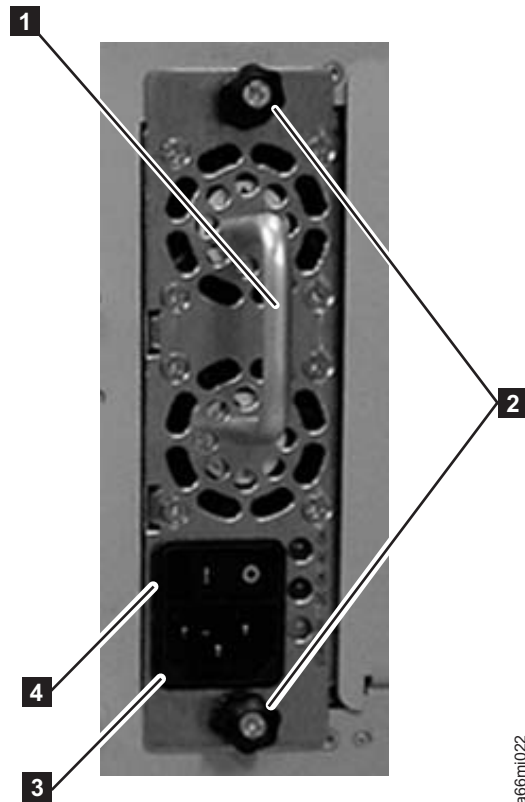

Figure 4-22. Control Module Power Supply
1. Replace the power supply component by sliding it into the power supply slot. First, grasp the handle (**1** in Figure 4-22) while supporting the power supply component from underneath. Then, line up the power supply component with the guides in the power supply slot, and carefully push it into the library.
2. Tighten the two thumb screws (**2** in Figure 4-22) on the power supply component by turning them clockwise.
1. Turn the switch on each power supply (**4** in Figure 4-22 on page 4-20) to the ON (I) position.